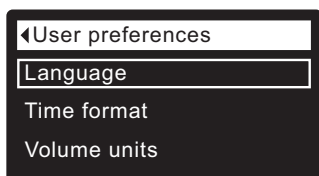

FIG. 56
3. Press the SELECT (O) button to display the User preferences menu (See Figure 56).
7. Press the SELECT (O) button. The display will go back to the User preferences menu (Figure 56).